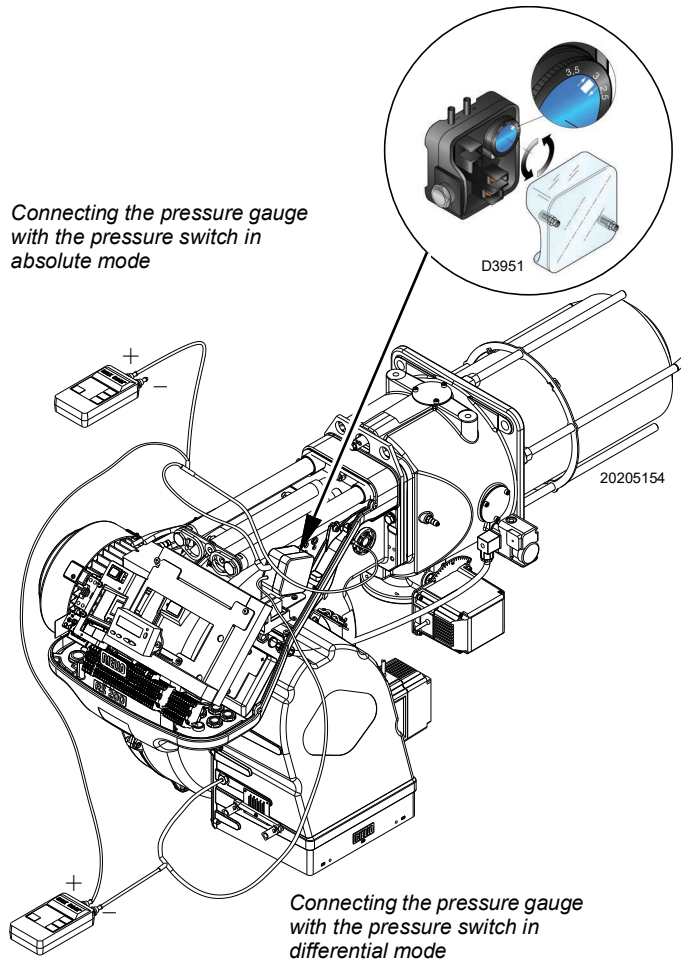

Fig. 35
- Adjust the air pressure switch (Fig. 35 on page 36) to the start of the scale.
Adjust the air pressure switch (Fig. 35) after having performed all other burner adjustments with the air pressure switch set to the start of the scale.
The connection of the pressure gauge is shown in Fig. 35. The standard configuration is that with the air pressure switch connected in absolute mode. Note the presence of a "T" connection, not supplied.
In certain applications in strong depression situations, the connection of the pressure switch does not allow it to change over. In this case it is necessary to connect the pressure switch in differential mode, applying a second tube between the air pressure switch and the fan suction line mouth. In this case also, the pressure gauge must be connected in differential mode, as shown in Fig. 35.